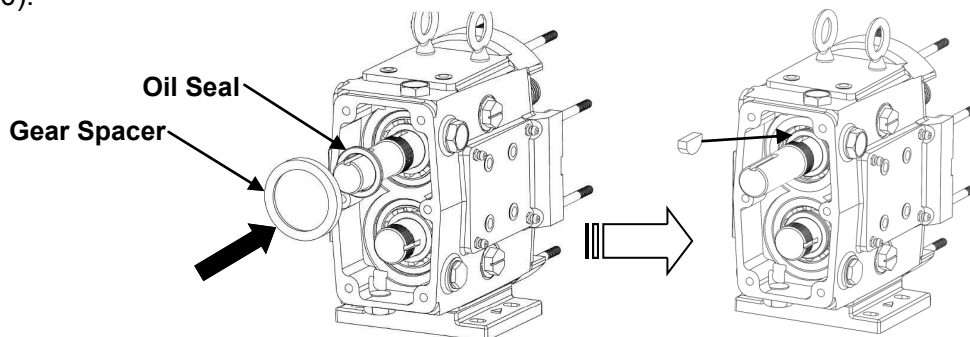

Figure 50: Rear Oil Seal and Gear Key Installation
7) Apply a light film of lubricant to the inside and outside diameters of the rear oil seals and install them into the back of the gear case with the spring side facing outward toward the gear. Install the gear spacers onto the shaft and place the gear keys into the shaft key slots (Figure 50).